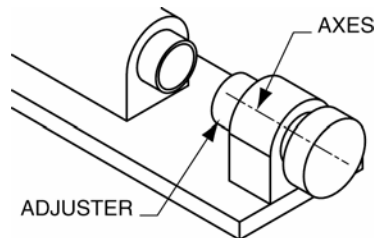

Figure 12-98: Adjuster Placement
Step 21: Use the same technique for assembling the piston part to constrain the *ADJUSTER* part (Figure 12-98).